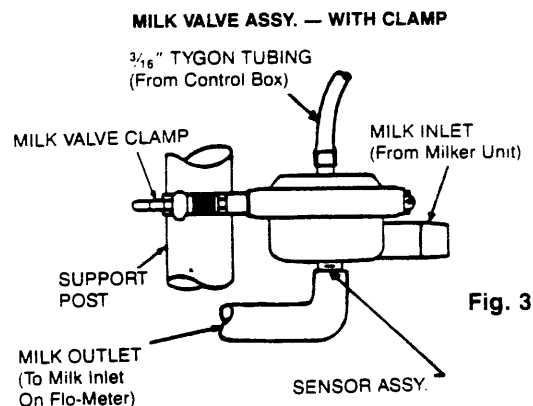
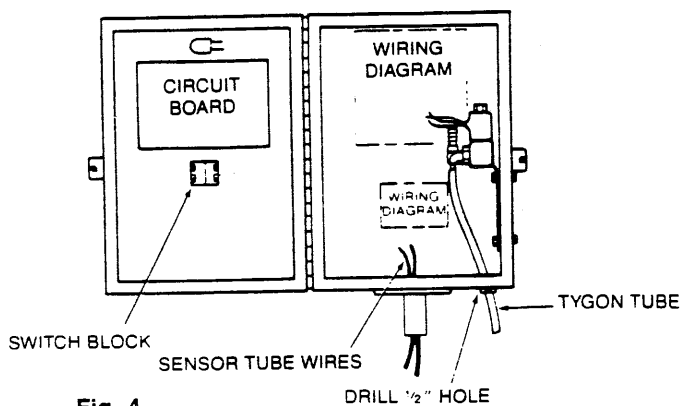

Fig. 3
Fig. 4
4. Attach milk valve assembly, 412332, included with 313324 Kit to the lower support post so that the milk valve outlet is in line with the milk inlet of the Flo-Meter. Secure with milk valve clamp, also included in 313324 Kit. (See Fig. 3)
5. If a hole is not already provided, drill (1) 1/2" hole in a convenient location to the right or left side, (depending on location of milk valve) of the lower support pipe hole in the bottom of the Flex-O-Matic Control Box. Slide the 908368 grommet on to 3/16" tygon tube and install in hole. Attach one end of tubing to the male elbow, 909260, connected to the bottom of the double valve in the Flex-O-Matic Control Box, then attach other end to the top of the milk valve assembly. (See Fig. 3 and Fig. 4)